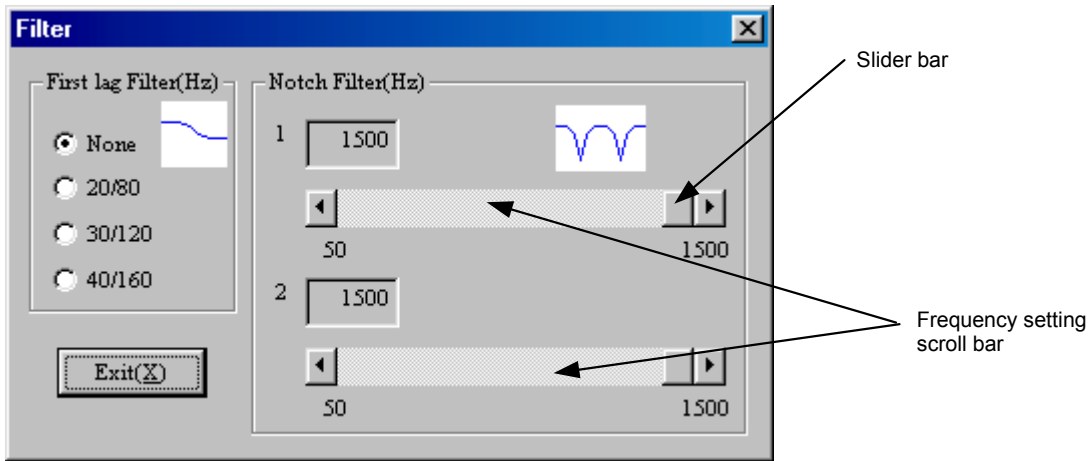

Figure 8.17 “Filter” dialog box
(3) Filter setting
Click “Filter (F)” under “Servo Tuning” to display the “Filter” dialog box (see Figure 8.17). The filter setting is divided into two sections, a first order delay filter setting and a notch filter setting.